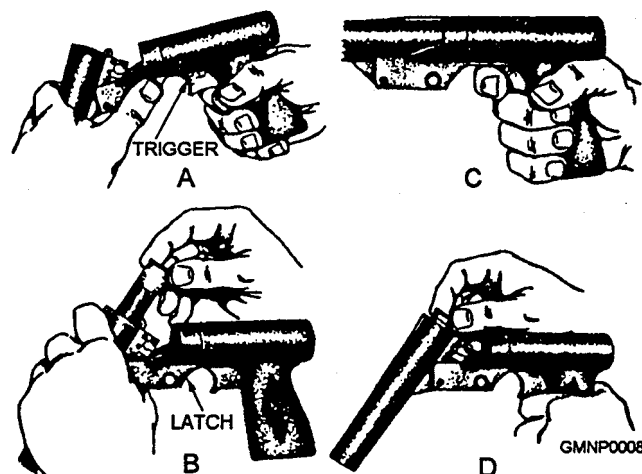

Figure 1-8.—Operation of the Mk 5 pyrotechnic pistol.
1. To load the pistol, depress the latch button below the barrel. At the same time, pull the barrel downward, as show in figure 1-8, view A. Insert the signal shell
2. To fire the pistol, aim it upward at the desired angle, normally 60 degrees, but clear of other ships or personnel. Pull the trigger, as shown in figure 1-8, view C. Keep your elbow slightly bent when firing to absorb the shock of recoil and to prevent the pistol from knocking itself out of your hand.